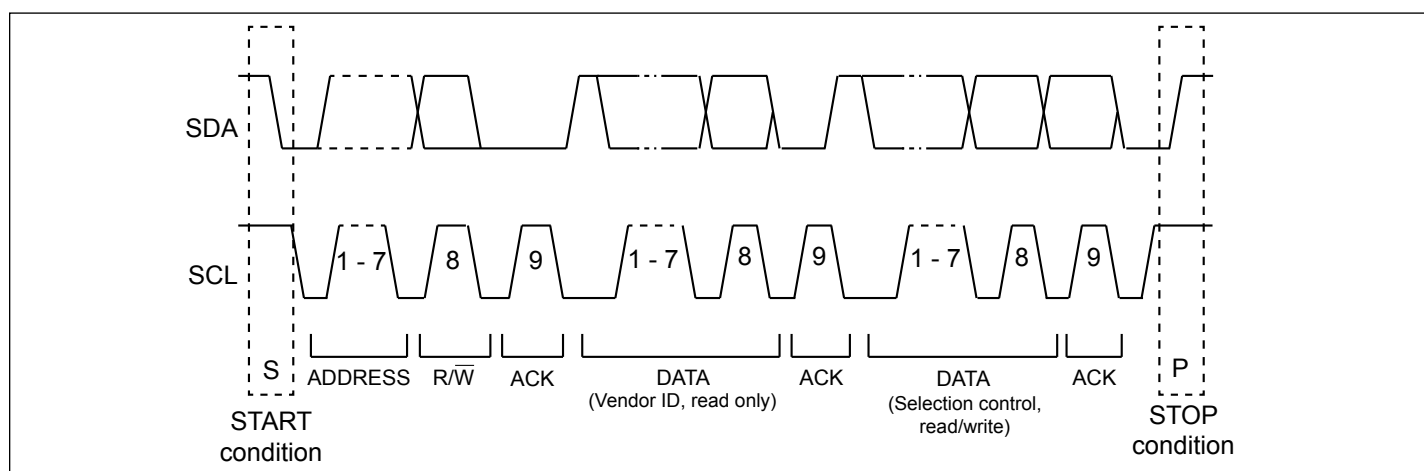

Figure A1: A Complete Data Transfer
Data transfers follow the format shown in Fig.A1 After the START condition (S), a slave address is sent. This address is 7 bits long followed by an eighth bit which is a data direction bit (R/W) - a 'zero' indicates a transmission (WRITE), a 'one' indicates a request for data (READ). A data transfer is always terminated by a STOP condition (P) generate by the master. However, if a master still wishes to communicate on the bus, it can generate a repeated START condition (S) and address another slave without first generating a STOP condition. Various combinations of read/write formats are then possible within such a transfer.